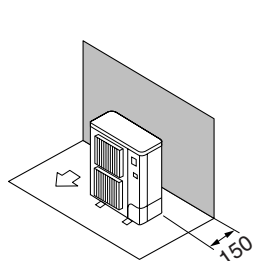

Fig. 2-2
- ① Kun forhindringer bagved (Fig. 2-2)